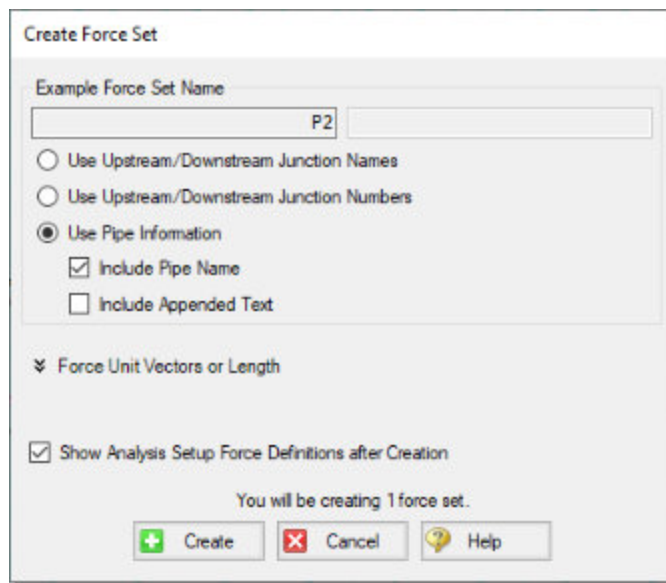
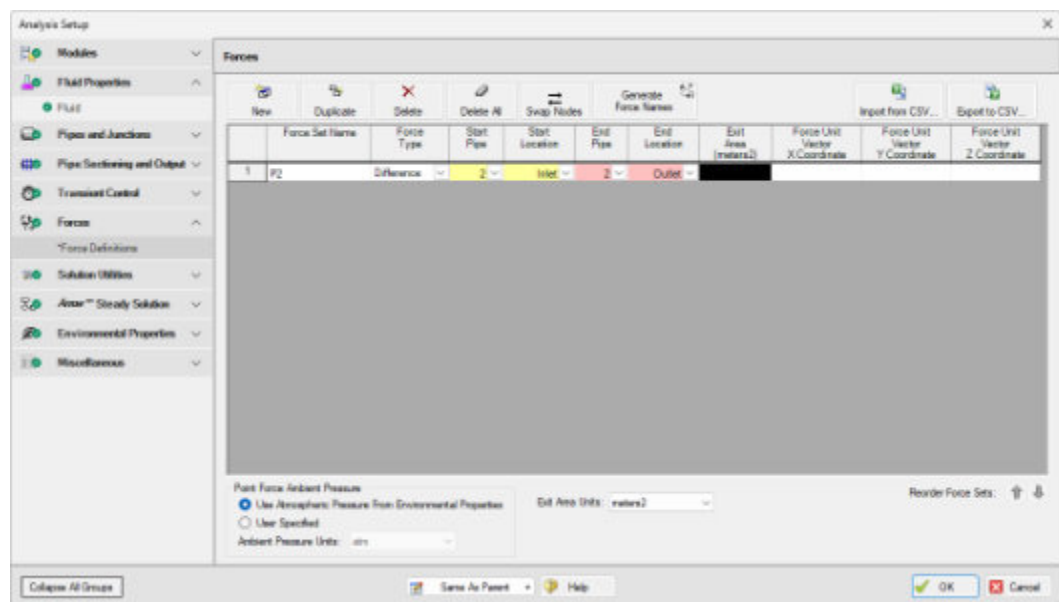

Figure 5.4 Adding a force set from the Workspace using the right-click menu
Figure 5.5 First Force Set added to the Force Definitions panel in the Analysis Setup window
- **On the Workspace, right-click on Pipe P2** and from the right-click menu select Create a Force Set with Selected Pipe. Select the Use Pipe Information radio button and un-check the Include Appended Text option (Figure 5.4). Click Create. This will open the Force Definitions panel of the Analysis Setup window. The Force Definitions panel should appear as shown in Figure 5.5.